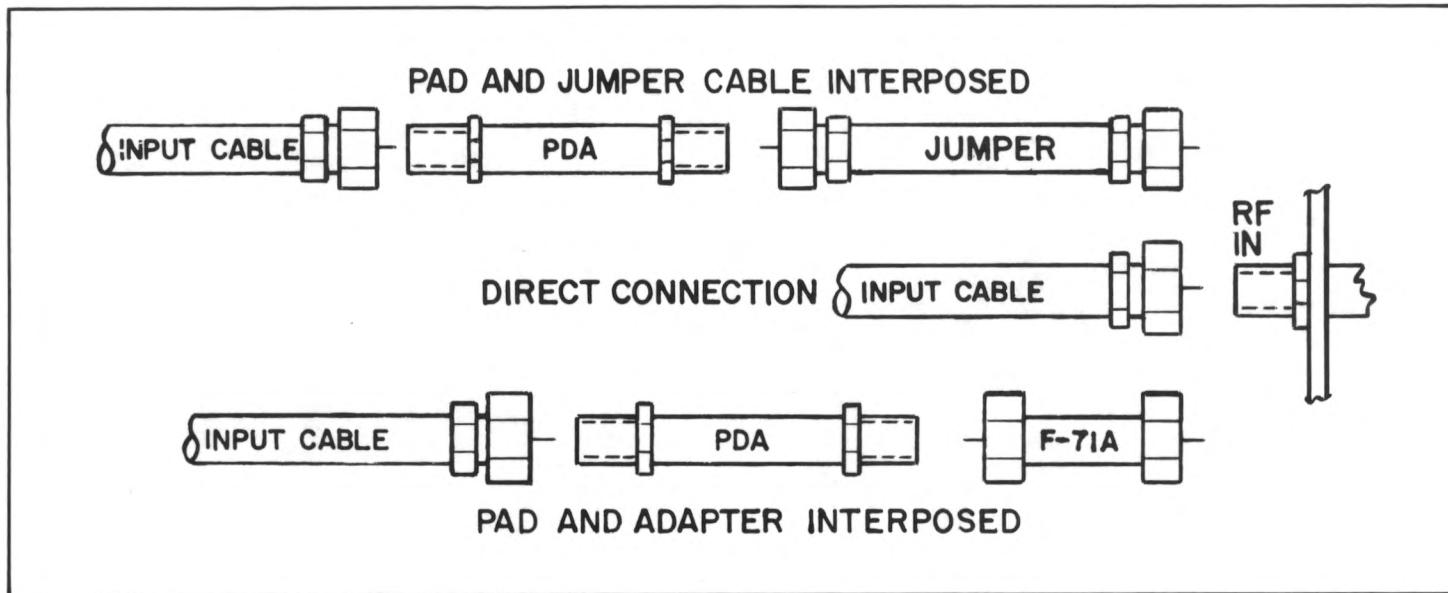

Fig. 11 RF INPUT LEVEL PADDING METHODS
3.2 Before attaching the cable to the RF IN terminal, connect it to a signal level meter, then measure and record the level for future reference. Next, detach the cable from the meter and attach it to the RF IN terminal on the Processor rear panel. Should the measured level exceed the specified maximum of +30 dBmV, first install an in-line pad Model PDA of the required rating and equipped with an F-71A adapter or a short coaxial jumper at the RF IN terminal and then attach the input cable to the PDA; see Fig. 11.
- 5.3 Connect the cable carrying the off-air channel reference signal to a signal level meter and measure and record the signal level for future reference. The level should be +20 to +40 dBmV; if it is higher, an appropriate in-line pad should be installed, as described in the foregoing paragraph 3.2 and Fig. 11, at the PHASE LOCK REF. IN terminal on the Processor rear panel. If the signal level is too low, a single-channel preamplifier is required. Then connect the input cable to the PHASE LOCK REF. IN terminal or to the in-line pad, as needed.